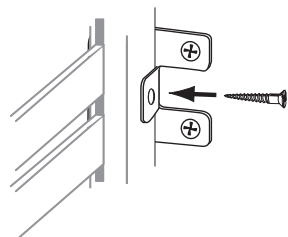

FIG. 3.6
7. Secure Tower onto Tower Brackets using #6 3/4" screws (Fig. 3.6)